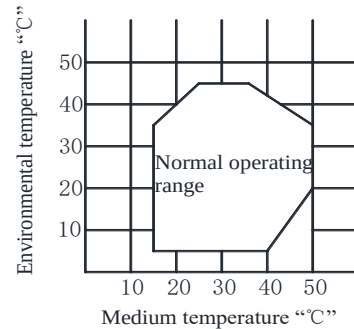

Fig. 2
- Relation of cooling medium temp. to ambient temp. (See Fig. 2).